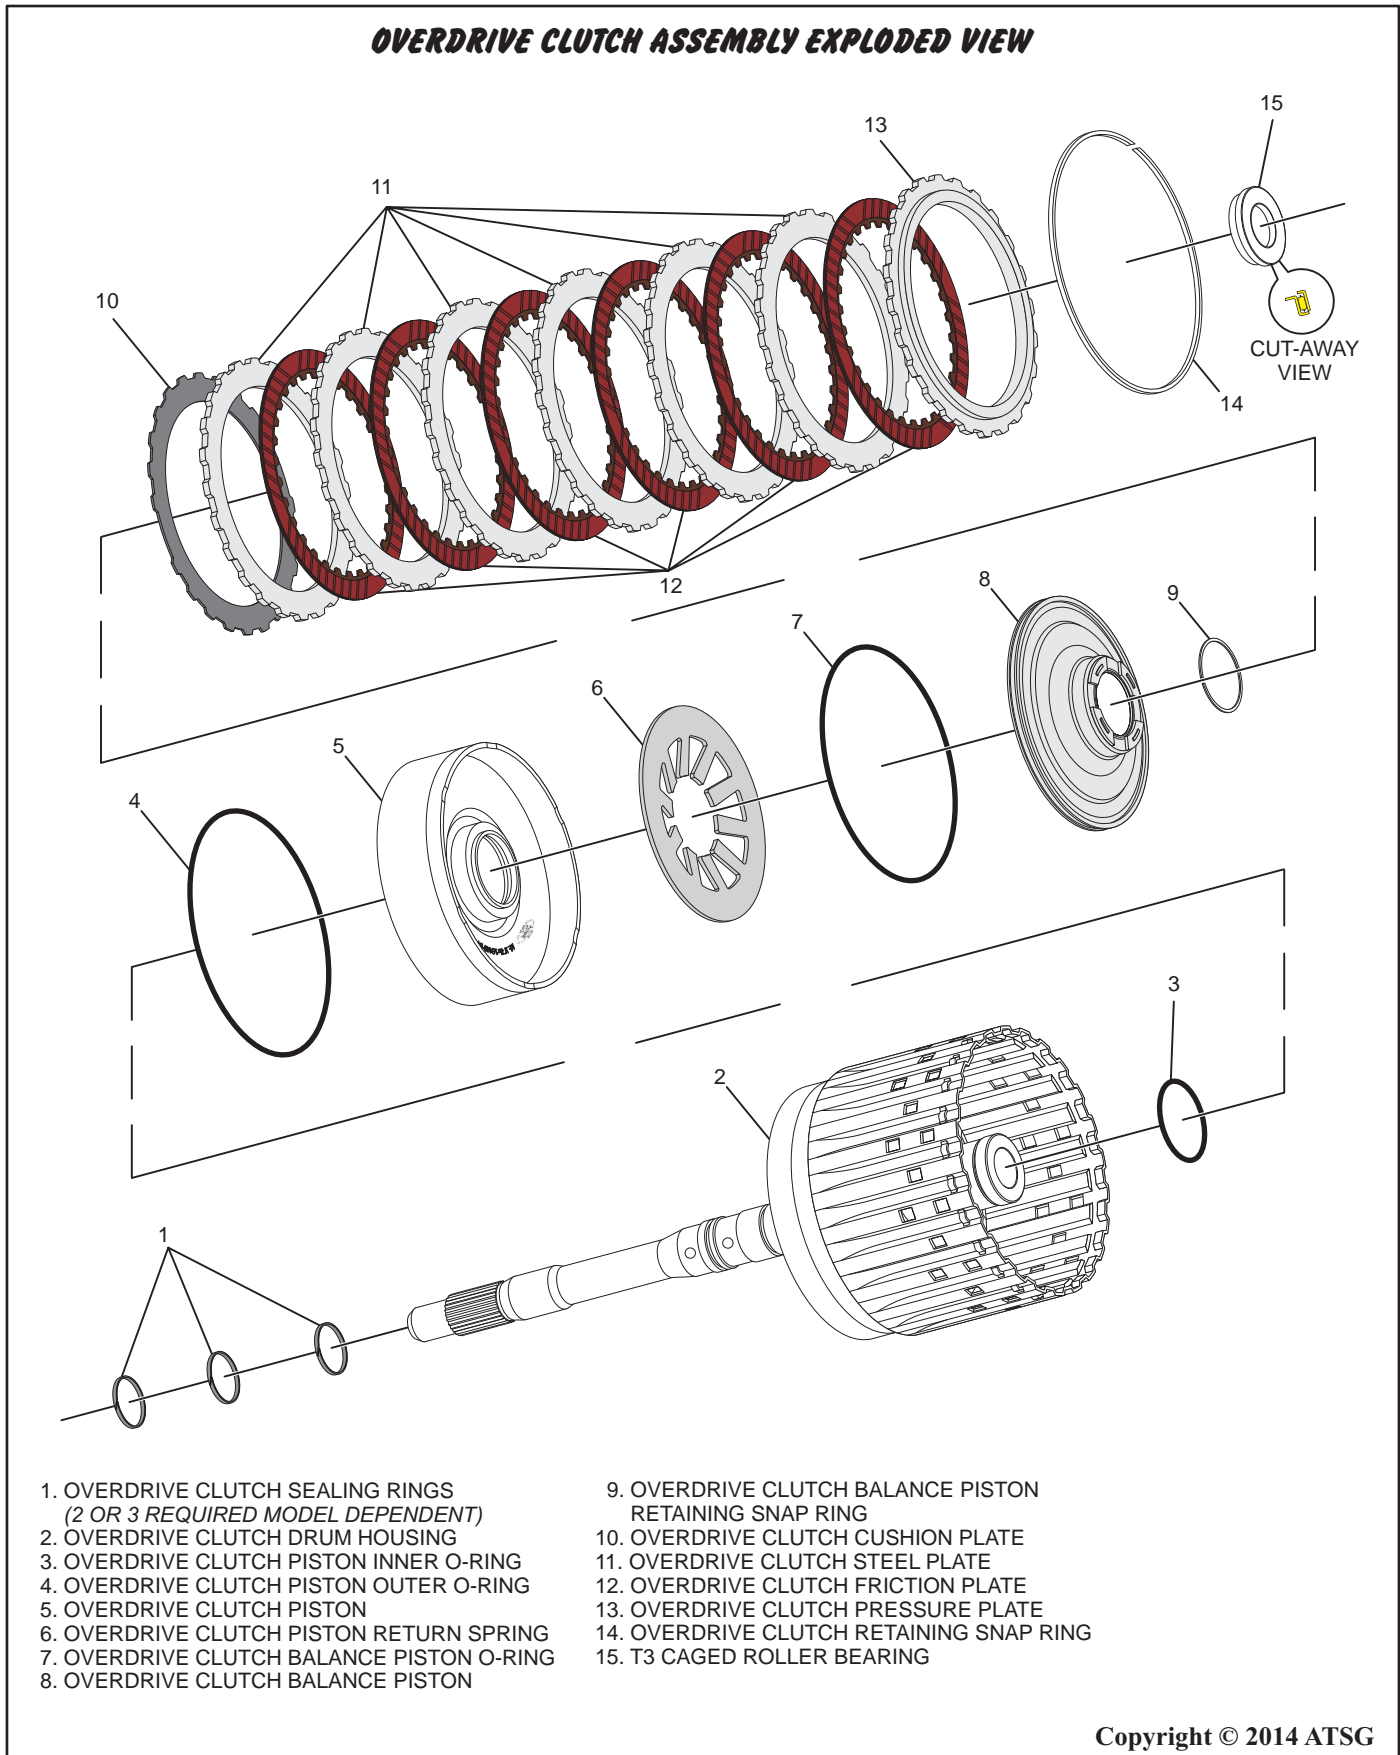

Figure 75
12. Disassemble the overdrive clutch housing using Figure 75 as a guide.